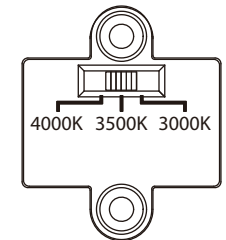

Fig. 2 Wiring
WIRING AND HANGING FIXTURE (Fig. 1, Fig. 2, Fig. 3)
9. Connect the wires as shown in Fig. 2 and Fig. 3 using wire connectors (A) (C) provided. Ensure wire connectors (A) (C) are secure. Connect the fixture's ground wire to the ground in the junction box; this will be either a green wire or a bare copper wire. After driver is wired to house wires, tuck them carefully inside the junction box.
11. Lift and mount the canopy against the ceiling plate. Rotate the canopy in the direction of the arrow until it stops. Fasten the canopy in place using the canopy screw (B).